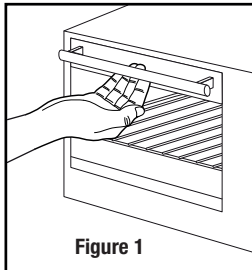

Figure 1
**Step 1:** Grab the center of the handle underhanded with fingertips (See Figure 1).